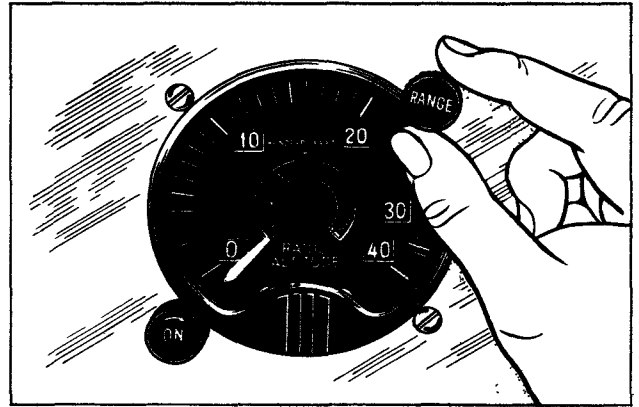

Figure 14—Operation of Range Switch on Altitude Indicator
(1) Set the range switch for the required range (see Figure 14). When on the ground, or in flight at an altitude below 400 feet, always use the low range (0 to 400 feet). When in flight at an altitude above 400 feet, use the high range (400 to 4000 feet).